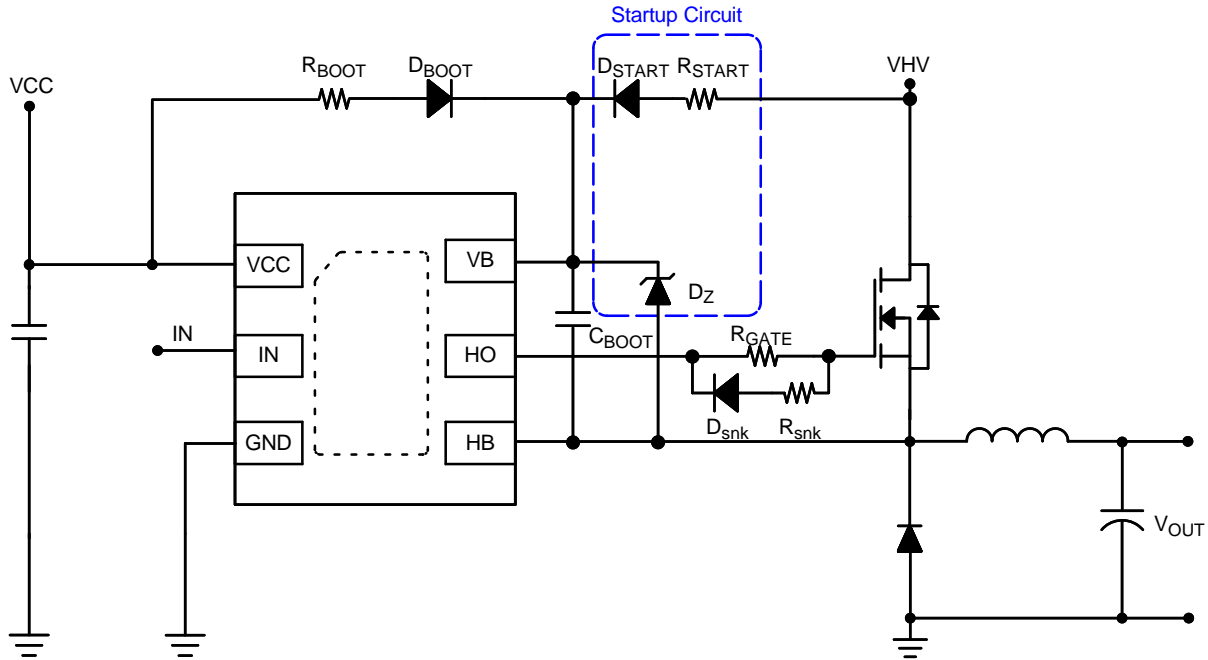

Figure 32. Bootstrap with Startup Circuit
usually provided through a bootstrap circuit. A typical bootstrap circuit is shown in the Figure 32.
The start-up circuit, as shown in the Figure 32, consists of a startup resistor (RSTART), a startup diode (DSTART), and a Zener diode (DZ). In this startup circuit, startup diode DSTART serves as a second bootstrap diode used for charging the bootstrap capacitor (CBOOT) at power up. Bootstrap capacitor (CBOOT) is charged to the Zener diode of DZ, which is supposed to be higher than the driver's supply voltage (VCC) during normal operation. The charge current of the bootstrap capacitor and the Zener current are limited by the startup resistor. For best efficiency, the value of startup resistor should be selected to limit the current to a low value, since the bootstrap path through the startup diode is permanently in the circuit.
The resistors also help to decrease power dissipation of the driver, because part of the energy from charging and discharging  $C_{gs}$  is radiated on the resistors  $R_{gate}$  (and on  $R_{snk}$  if they are used) outside the driver see Figure 32. The gate resistor selection is tricky task. It depends on application, topology, on used MOSFETs, layout etc.
In some applications it is desired/advantageous to use separated current paths for charging and discharging the gate capacitance. For this purpose external MOSFET gate connection must be extended (see Figure 32). Two components  $R_{snk}$  and  $D_{snk}$  can be added in parallel to  $R_{gate}$  resistor. The charging path is now only through  $R_{gate}$  resistor, while discharging path is through  $R_{snk}$  and  $R_{gate}$  in parallel combination. Consider both resistors are the same value 10  $\Omega$ . The source current is calculated using Equation 10. The current is 769 mA.